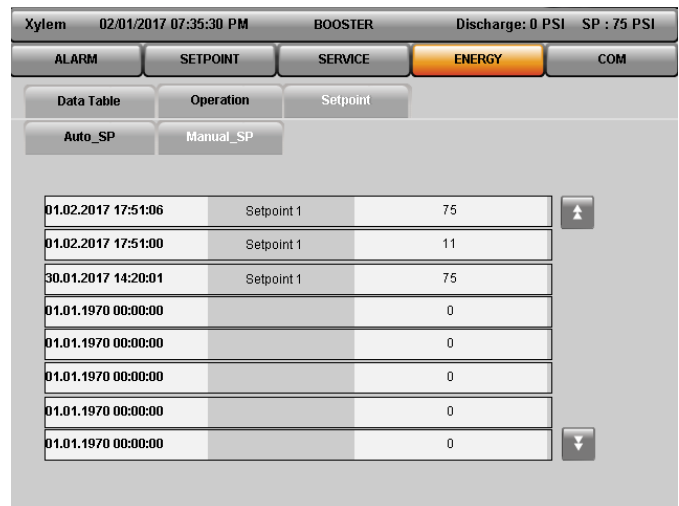

Figure 5.6.7 – Manual Setpoint
- Manual Setpoint:** Page for Manual Setpoint logging is shown in Figure 5.6.7. Setpoint changed through Fixed Setpoint and Schedule Setpoint will be logged along with Date/Time stamp.